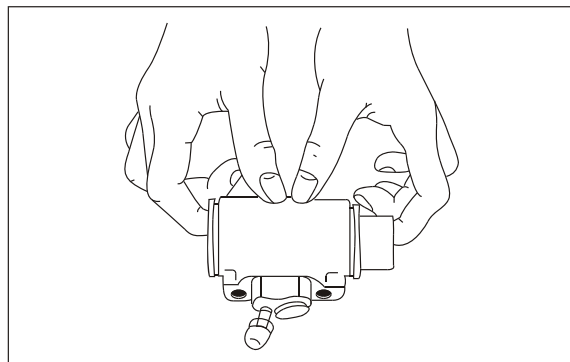

Fig.5-13
(7) Remove the boot, and push the piston into the cylinder from one side while removing the parts at the other side. Then push out the remaining parts from the opposite side shoes along with the adjuster and adjuster spring.(See Fig.5-13)